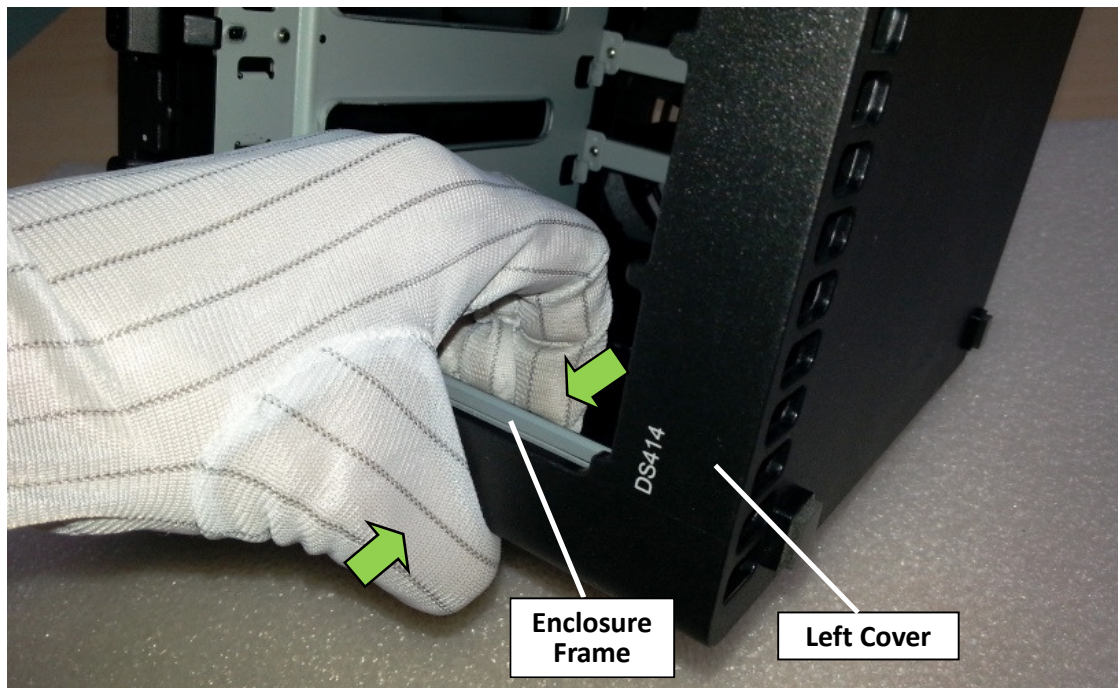

Fig. 37
- 2.2.11 Grab then push the enclosure frame and the left cover at the same time to join them together. Let the two tenons clamp to the enclosure frame properly. (Fig. 37)